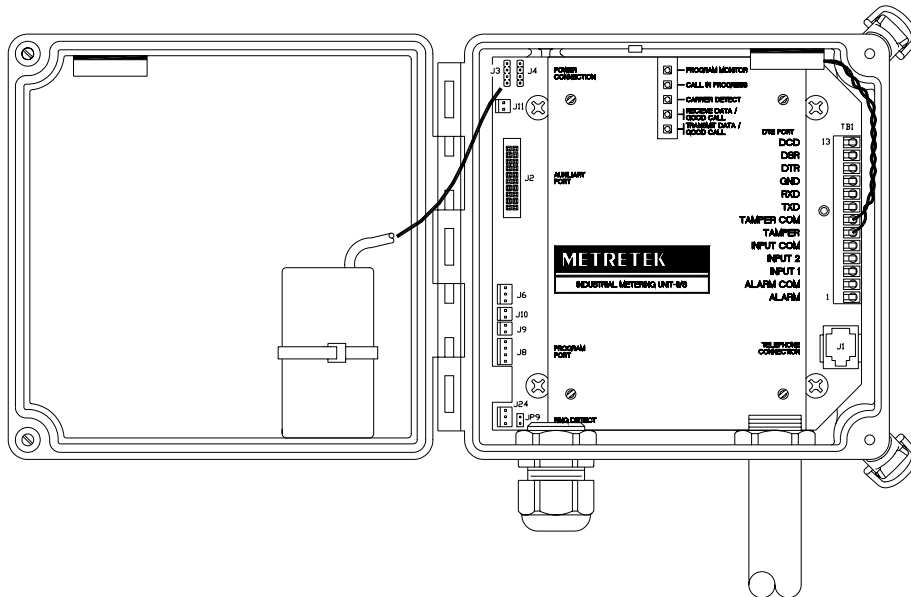

Figure 3-6. Lithium Battery Powered IMU-II/S
1. Install the lithium battery pack on the door of the IMU-II/S enclosure as shown in figure 3-6. Secure the battery with the tie-wraps supplied.
2. Connect the plug from the lithium battery pack to either battery connector, J3 or J4, on the IMU-II/S board. Figure 3-6 shows the exact location of the battery connectors.